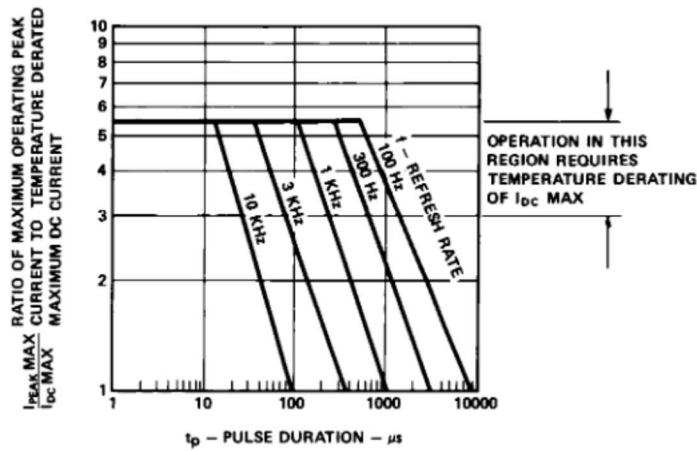

Figure 1. Maximum Allowable Peak Current vs. Pulse Duration.
- See Figure 1 to establish pulsed operation. Maximum pulse width is 1.5 mS.